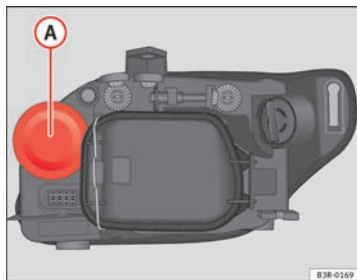

Fig. 206 Main beam headlights
- Pull up on the rubber cover (A) ⇒ fig. 206 to remove it.